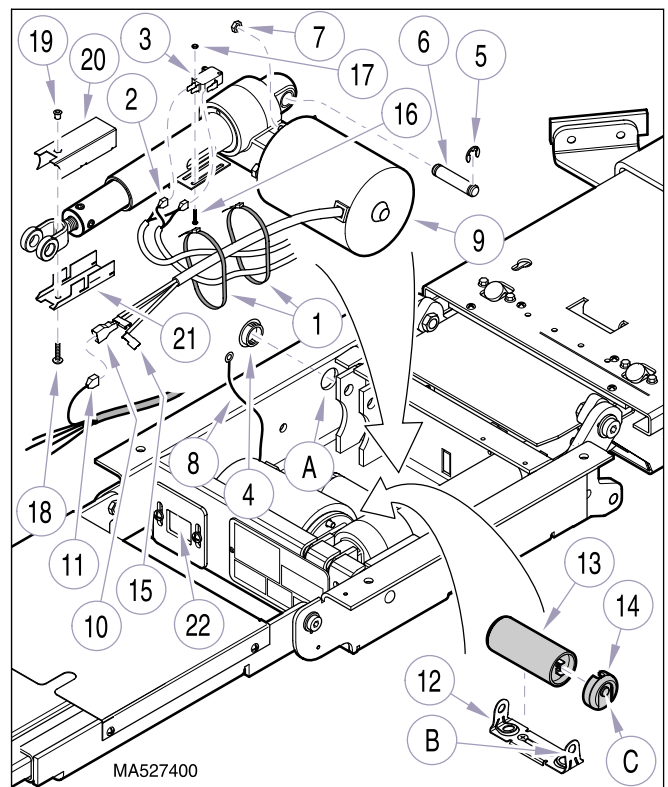

Figure 4-13. Foot Actuator Removal / Installation
- (4) Unplug table from wall outlet.
- (5) Remove four knobs (4) and seat upholstery (5).
- (6) Remove two screws (6) and electrical cover (7).
- (7) Cut two cable ties (1, Figure 4-13); then tag and disconnect two wires (2) from terminals of limit switch (3).
- (8) Remove hole plug (4) and two klip-rings (5); then using a hammer and punch, drive clevis pin (6) out thru hole (A).
- (9) Remove nut (7) and ground wire (8) from foot actuator (9).
- (10) Disconnect foot actuator wire (10) from wire (11).
- (11) Using a screwdriver, pry tab (B) of mounting bracket (12) outward; then remove foot capacitor (13) from mounting bracket.
- (12) Remove cap (14) from foot capacitor (13).